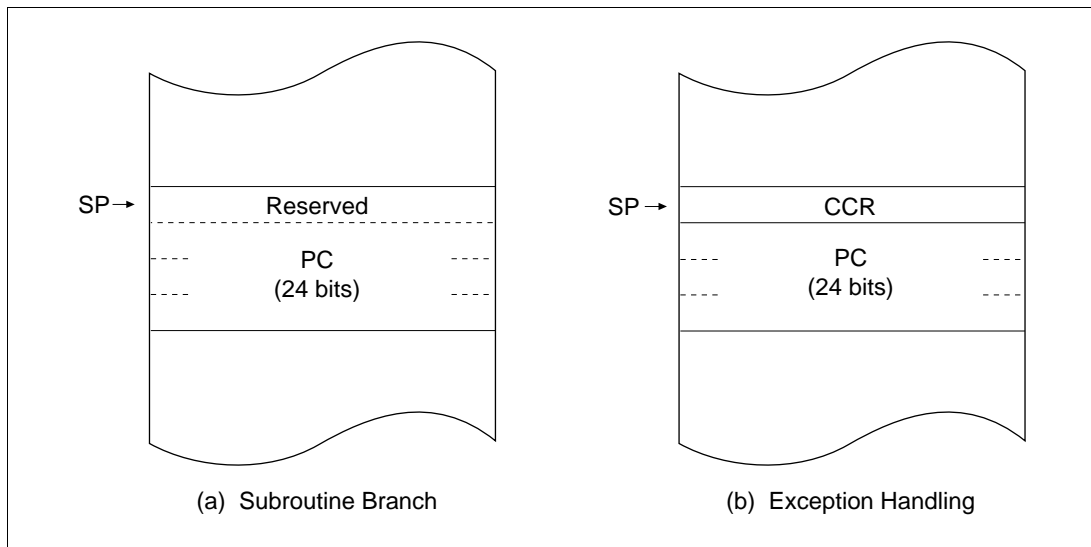

Figure 2.5 Stack Structure in Advanced Mode
In advanced mode, when the program counter (PC) is pushed onto the stack in a subroutine call, and the PC and condition-code register (CCR) are pushed onto the stack in exception handling, they are stored as shown in figure 2.5. The extended control register (EXR) is not pushed onto the stack. For details, see section 5, Exception Handling.